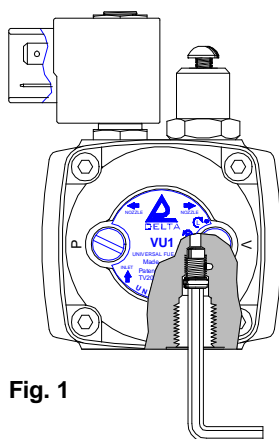

Fig. 1
- Using a 4 mm Allen key, unscrew the by-pass plug from the return port (Fig. 1).